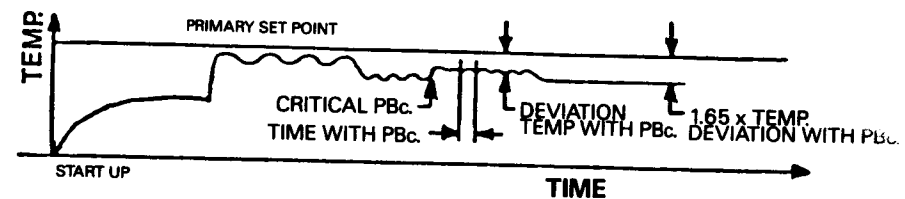
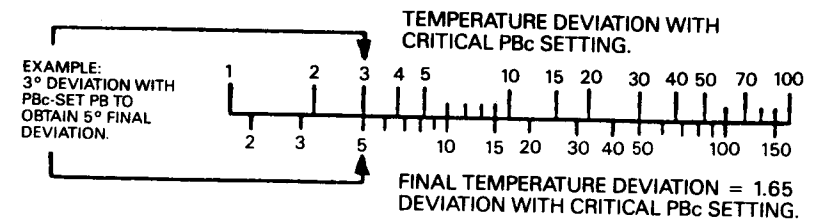

Figure 4-5. Calculating Final Temperature Deviation
Figure 4-6. Nomogram I
The desired final deviation can be calculated by multiplying the initial deviation achieved with the "CRITICAL" PB setting by 1.65 (see Figure 4-5) or by use of the convenient Nomogram I (see Figure 4-6). Try several trial-and-error settings of the PB control until the desired final deviation is achieved.
- Increase the proportional band setting until the process deviation (droop) increases 65%. Nomogram I (refer to Figure 4-6) provides a convenient method of calculating the desired final process deviation.